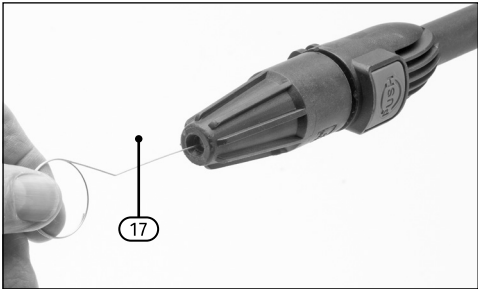

Fig. 19
8.2 Using the Cleaning Pin (Fig.19)
- Use the cleaning pin (17) supplied to remove debris and foreign matter from the nozzles.